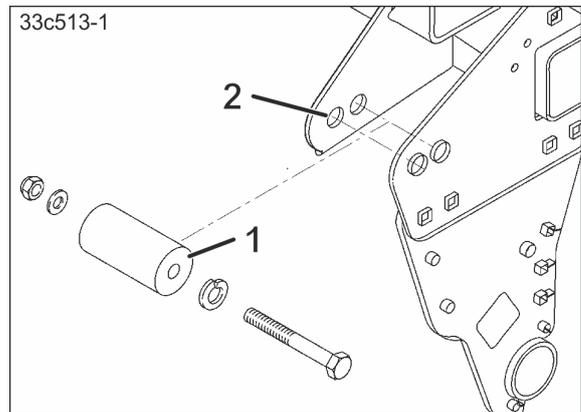

Fig. 105
- two bearing sleeves (Fig. 105/1)
The bearing sleeves are fastened in the holes (Fig. 105/2).